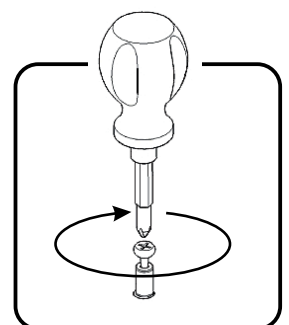

Figure 1
Insert Cam Lock Screws into pre-drilled holes in Top (A), Side Panels (F) and Plinths (J), then tighten. (See Figure 1)